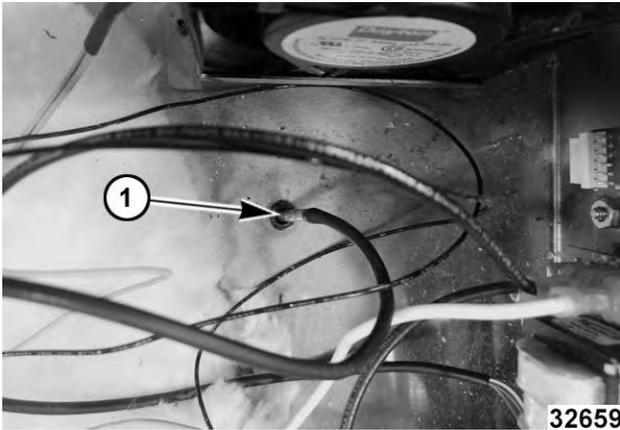

Fig. 18
5. Pull probe (1, Fig. 18) up through grommet in top of cabinet.